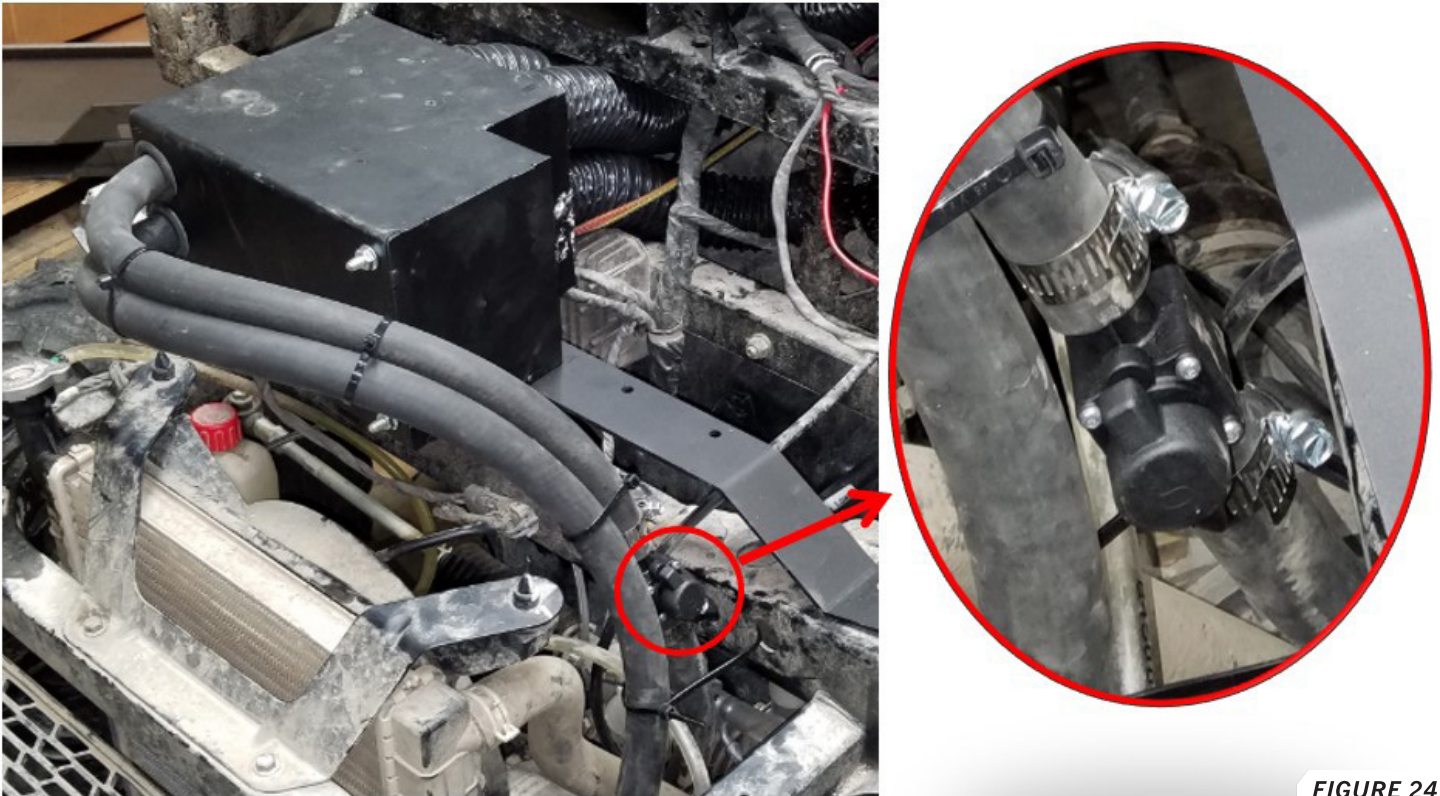

FIGURE 24
54. Install the plastic shutoff valve in the long piece of $\frac{5}{8}$ " radiator hose by cutting the hose and inserting the plastic shutoff valve as shown in *FIGURE 24*. Secure using two of the #10 hose clamps.
55. Zip tie the two $\frac{5}{8}$ " hoses together as shown in *FIGURE 24*. Loosely zip tie the hoses to the frame that the heater box is mounted to. This will keep the hoses from rubbing against the radiator.